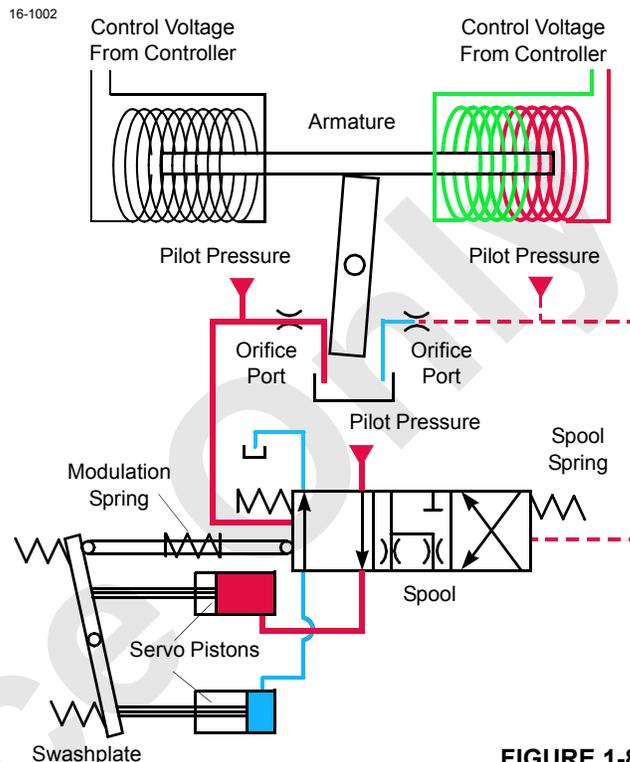
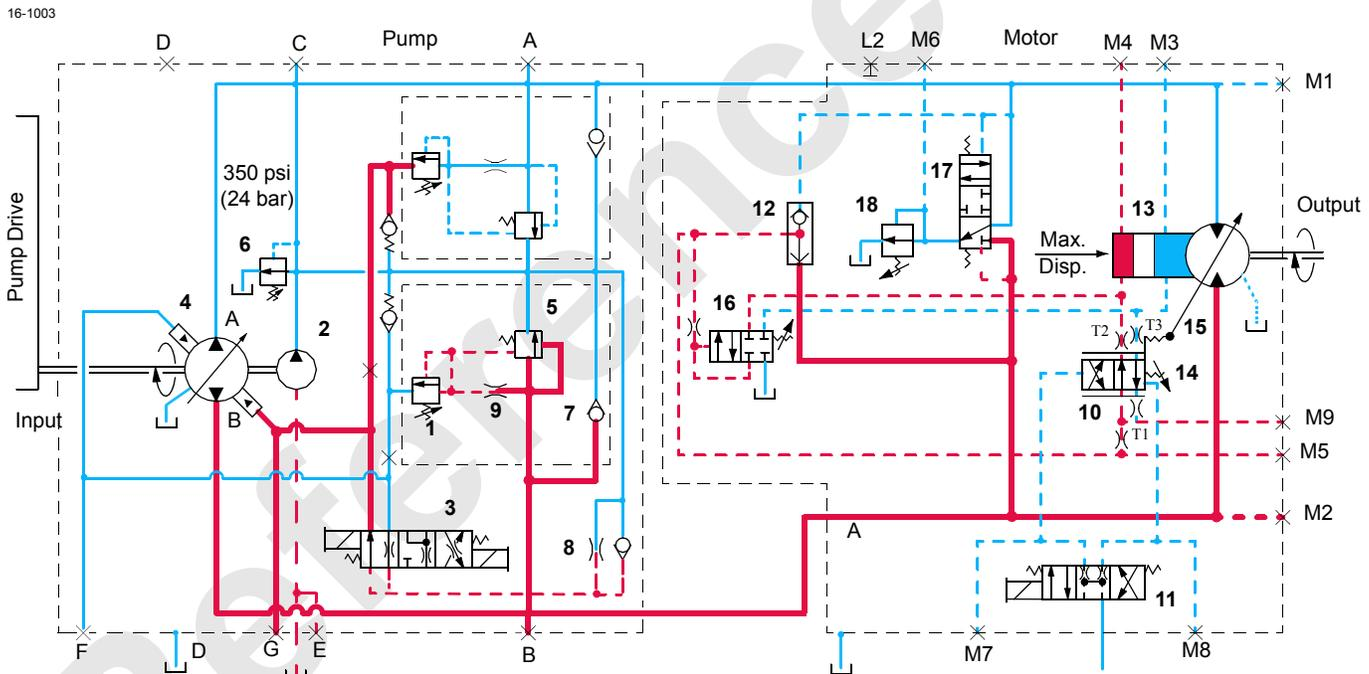

FIGURE 1-8
FIGURE 1-9
See Figure 1-8 or Figure 1-9 for the following procedure.
When a control handle is moved from the neutral position, an input voltage in the handle command direction is sent to the Node-1 controller. The selected component node controller sends a variable 0 to 24 volt output that is divided by a resistor and applied to the pump external EDC. The output current magnetizes an armature (Figure 1-8) and starts to
Hydraulic fluid pressure overcomes the spring resistance in the pressure-limiting relief valve (1, Figure 1-9), shifting the spool to open a line for fluid pressure. The servo check valve (2) is spring loaded with an opening pressure of 52 bar (754 psi). Hydraulic fluid from the pressure-limiting relief valve flows through the exhaust port of the displacement control valve (3).